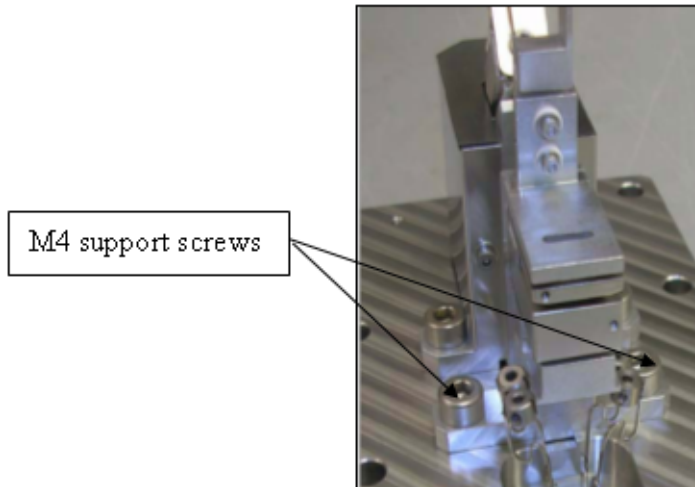

Figure 6: M4 Screws
12. Remove the two M4 support screws (Figure 6: M4 Screws).